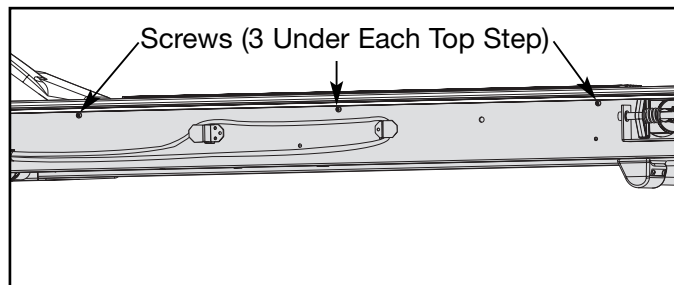

Figure 4
- A. Using a Phillips head screwdriver, remove the three screws that hold each top step in place. See Figure 4.
- A. Place each top step in position. See Figure 4.
- B. Using a Phillips head screwdriver, tighten the three screws that hold each top step in place. See Figure 4.